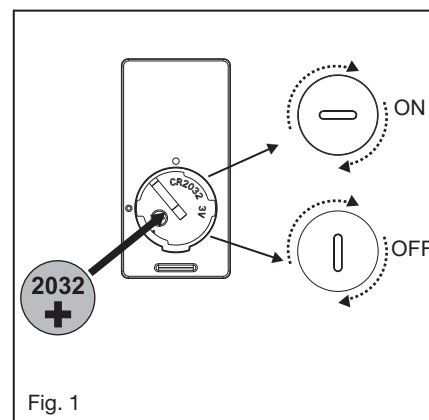

Fig. 1
1. Insert the receiver into the ceiling mounting bracket with the flat side of the receiver facing the ceiling. (Fig. 1) For best performance, make sure the Black Antenna and WiFi Antenna, on the end of the receiver, remains extended and not tangled with any of the electrical wires.
- 1 While holding the LED assembly under your fan, make the polarizeplug connections: (Fig. 1)
- 2 Position the notches on the outside edge of the LED assembly so they match the tabs on the inner of the rim on the mounting hub. Carefully lift the LED assembly inside the mounting hub and secure it to the fan by turning the LED assembly clockwise until snug. (Fig. 1)
- 1 Select a desired location. Use the wall plate to mark the location of the mounting holes. Plastic wall anchors or mounting screws are needed for this application. (Fig. 1)
Remove the panel from the transmitter and then install one 2032 battery (included). You need to use a coin to open or close the battery cover. To prevent damage to transmitter, remove the battery if not use for long periods of time (Fig. 1)